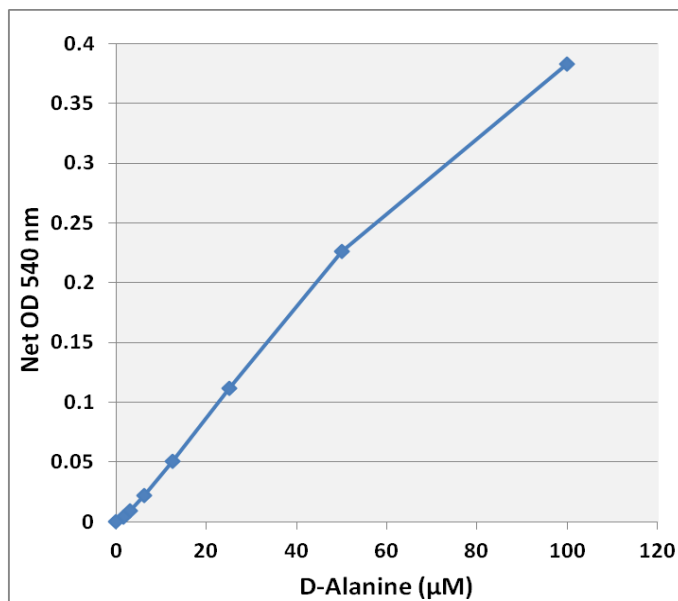

Figure 2: D-Alanine Standard Curve.
3. Graph the standard curve (see Figure 2).